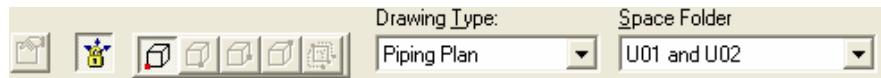

Figure 35: Place Drawing Volume by Four Points Ribbon
3. Select the following options on the **Place Drawing Volume by Four Points** ribbon as shown in Figure 35: